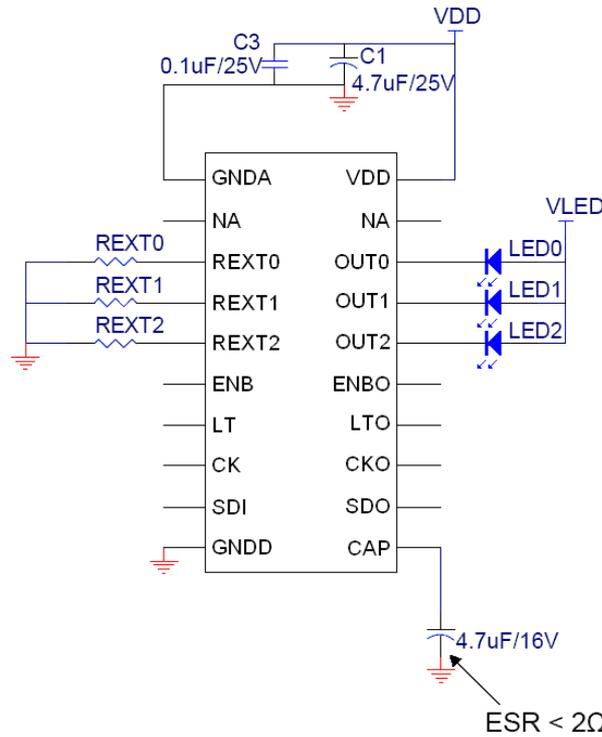
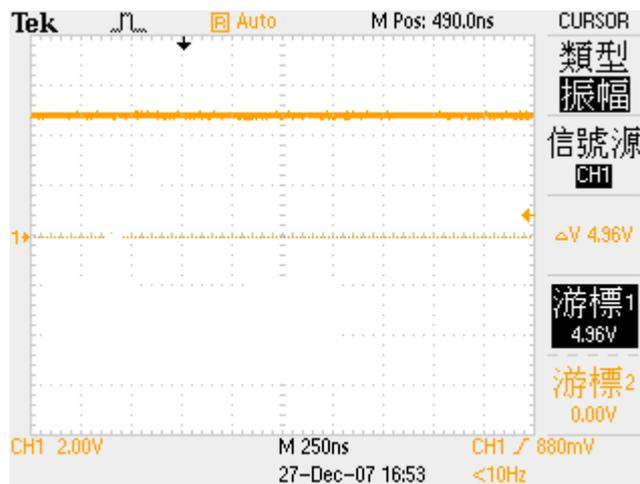

Fig.2 Connecting CAP with adequate capacitor to stabilize the signal
Fig.3 The voltage waveform at CAP
1. As shown in Fig.2, the users need connect CAP pin with an adequate capacitor to stabilize the voltage from spike. Fig.3 shows the voltage waveform at CAP pin.